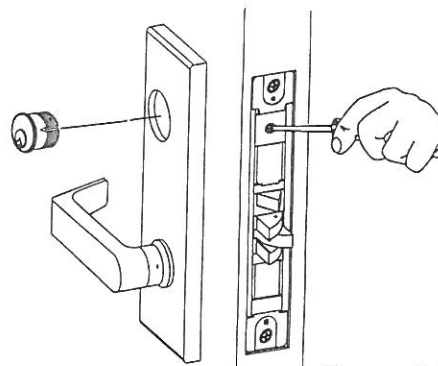

Figure 6-4
5. Screw cylinder into threaded hole of lock case. (See Figure 6-4.)